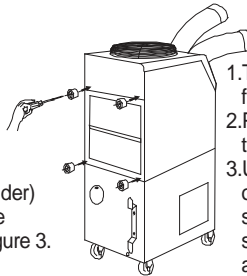

Figure 4
3. Use screws (enclosed inside of accessory box with rubber stoppers) to install the rubber stoppers on the air conditioner as shown in Figure 4.